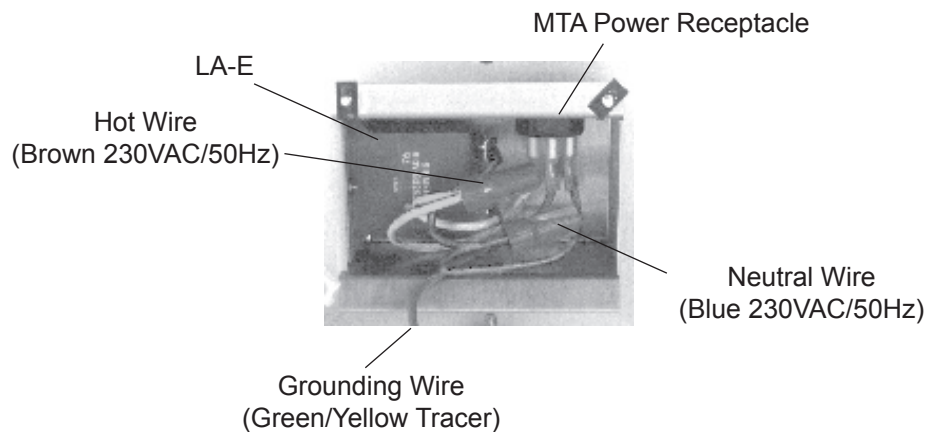

Fig. 2-15, APX 230VAC/50Hz Wiring
- Connect the utility ground to the enclosure ground terminal. See Figures 2-15 and 2-16.